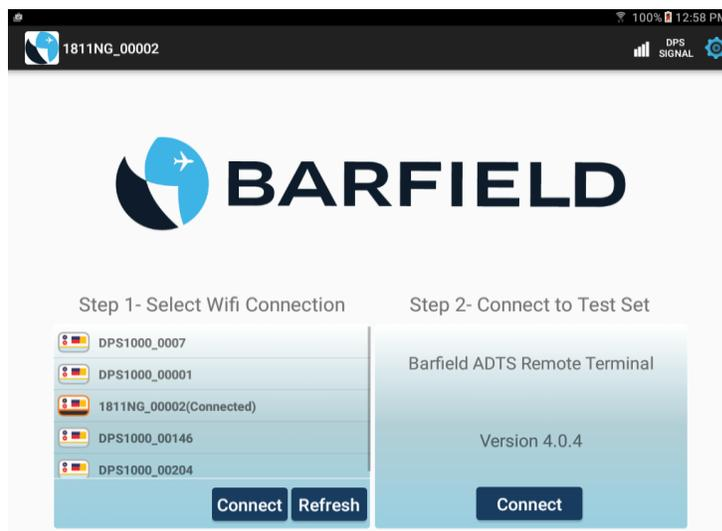

Figure 2.1 Connect Screen
- a) Launch the “Barfield ADTS” app. The “Connect” screen appears (Figure 2.1).